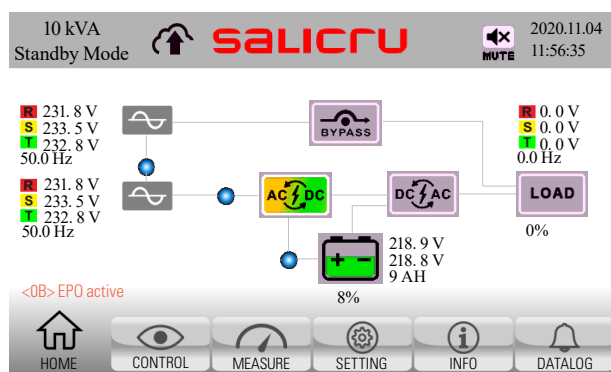

Fig. 60. Main screen with EPO emergency stop activated. There is no output voltage.
2. **A new alarm, <OB> "EPO active", appears on the control panel, and the unit switches automatically to standby mode (Fig. 60).**